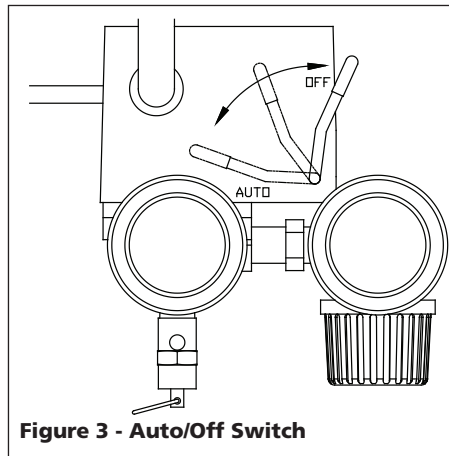

Figure 3 - Auto/Off Switch
- Pressure Switch - Auto/Off Switch** (Figure 3) - In the auto position, the compressor shuts off automatically when tank pressure reaches the maximum preset pressure. In the OFF position, the compressor will not operate. This switch should be in the OFF position when connecting or disconnecting the power cord from the electrical outlet or when changing air tools.